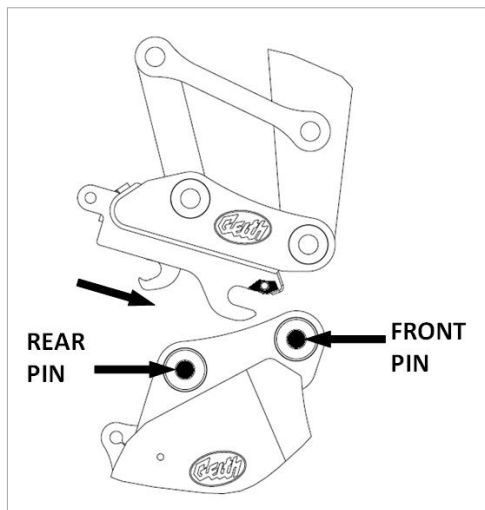
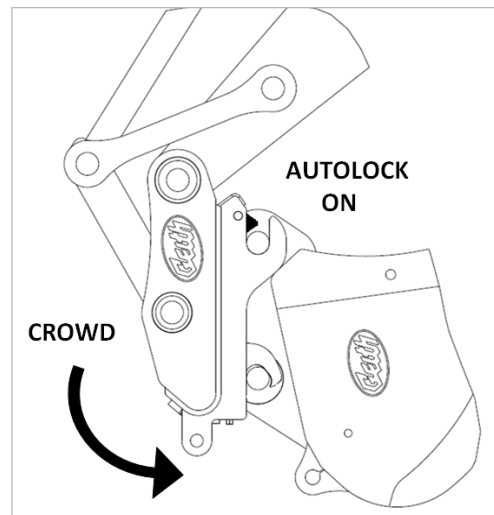

Fig. 17
Fig. 18
1. When the Auto-Lock is open, crowd the Quick Coupler to the open digging position and lower the Quick Coupler hooks down onto the front pin. Crowd the Quick Coupler around until the Quick Coupler contacts the bucket back pin and raise the bucket off the ground while continuing to crowd the Quick Coupler fully inwards to the closed position. See fig. 17 and fig. 18.